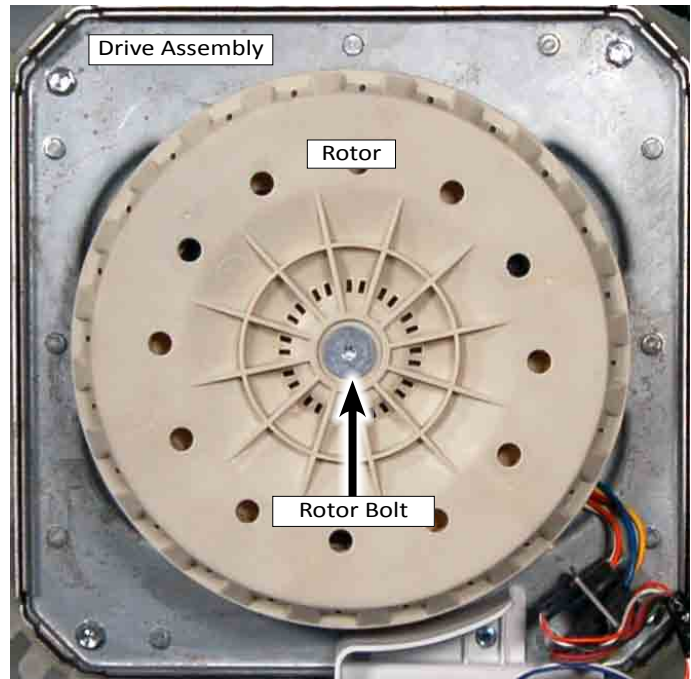

Figure 2
2. **Remove Rotor** - Use a T-30 TORX driver to remove the center rotor bolt (see Figure 2). Rock the rotor back and forth until the rotor has been pulled away from the stator.